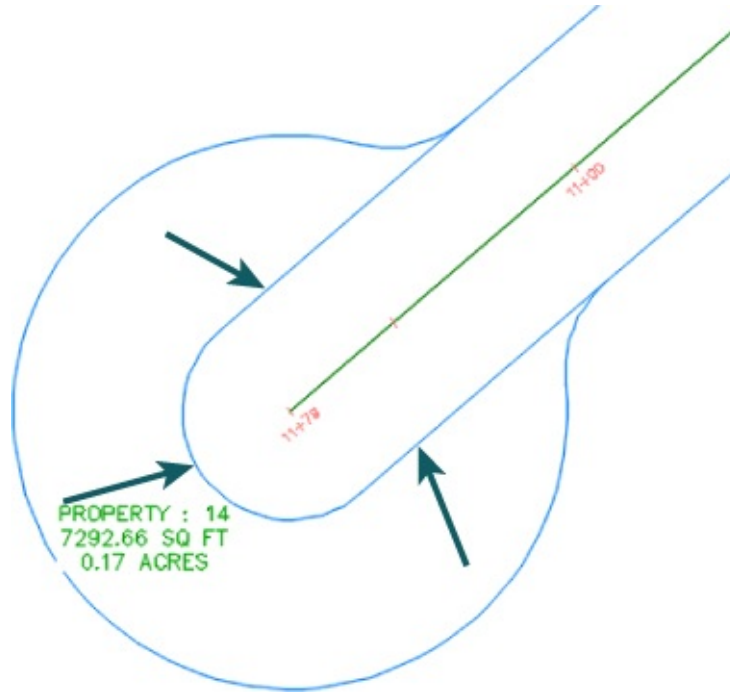

Figure 5.21 Delete these parcel segments.
10. At the Select subentity to remove: prompt, select the right of way that interferes with the cul-de-sac, as shown in Figure 5.21. Apply the selected edits to both cul-de-sacs.